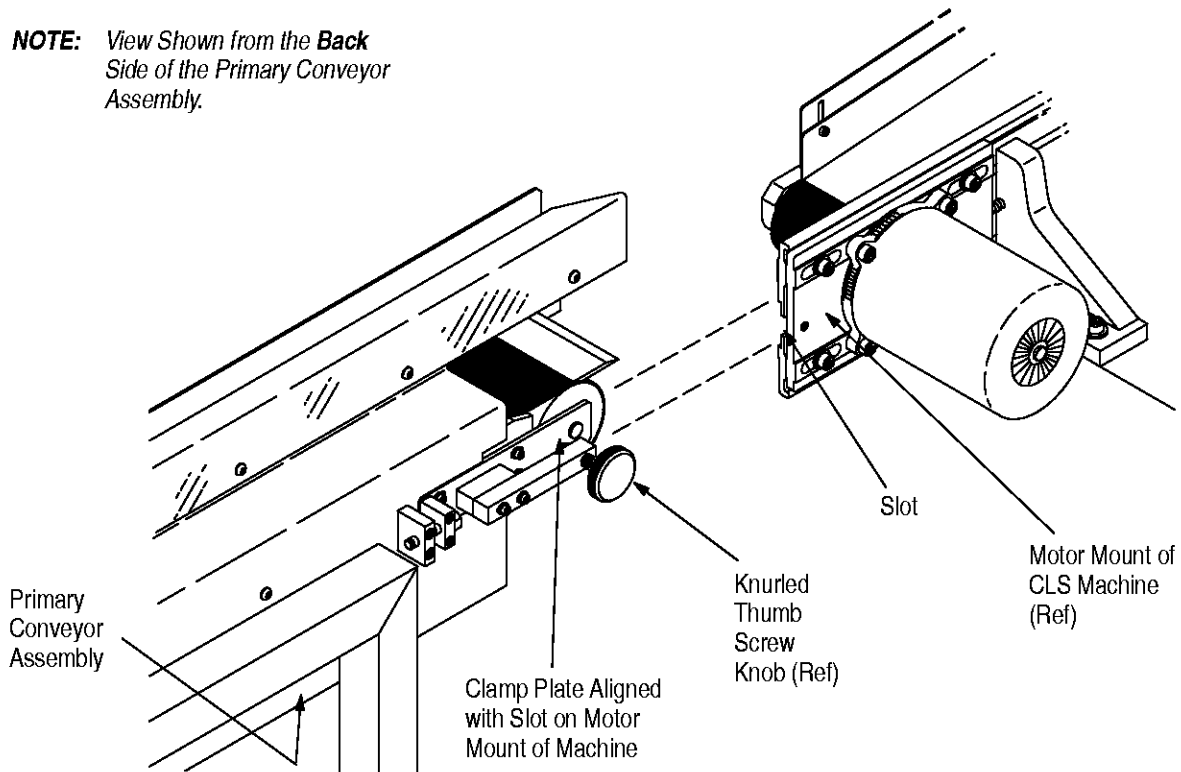

Figure 3
3. Roll primary conveyor assembly in front of machine. Align clamp plate of primary conveyor assembly with the 22.35 mm [.88 in.] slot on the motor mount of the machine. See Figure 3.